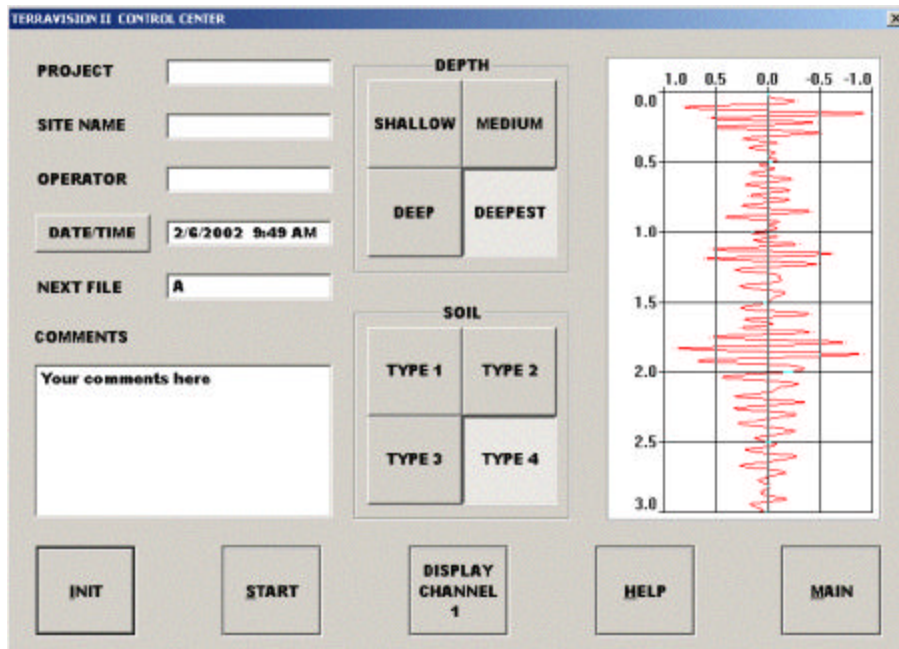

Figure 4: SETUP Screen.
Step 4: Hitting SETUP shows the next screen (Figure 4)